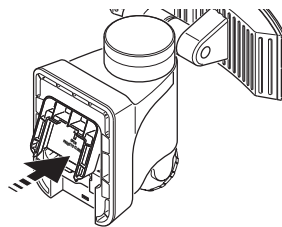

Figure 4
3. Insert the alignment tabs on the top of the battery cover with the slots on the rear of the light fixture (see Figure 4).
4. Rotate the battery cover toward the light fixture until it snaps into place (see Figure 4).